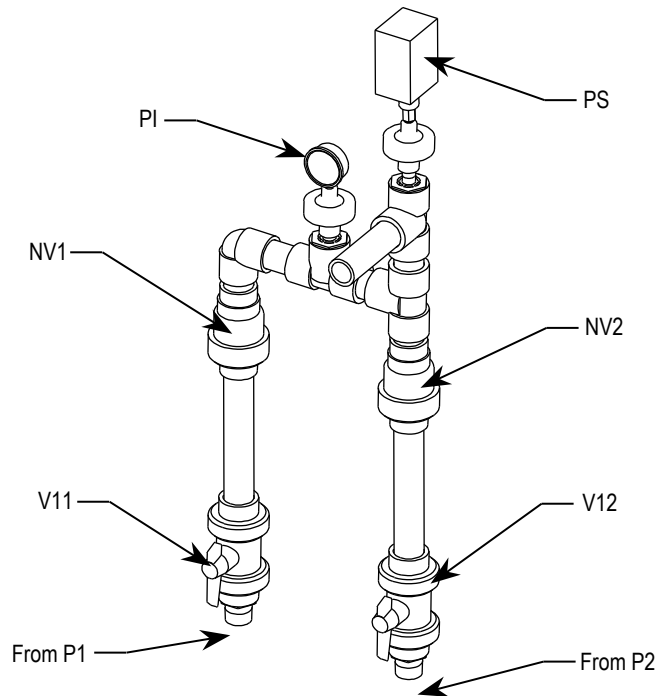

Figure 4.55 – Pressure Indicator and Switch Locations
The non-return valves (NV1 & NV2) shown in Figure 4.55 are ball-type valves made from CPVC. These can not be changed with the drive on-line. All coolant must be drained to replace these parts.
The pressure indicator (PI) shown in Figure 4.55 indicates the discharge pressure of the pumps. Refer to Piping diagram supplied for the expected pressure value. Diagram is pasted in the pump cabinet.
The pressure switch (PS) shown in Figure 4.55 detects the drop in pressure if a pump fails or if there is a major pipe break. When low pressure is detected, the backup pump will start, but if the pressure does not reach operating levels within a set period of time, the drive will shut down.